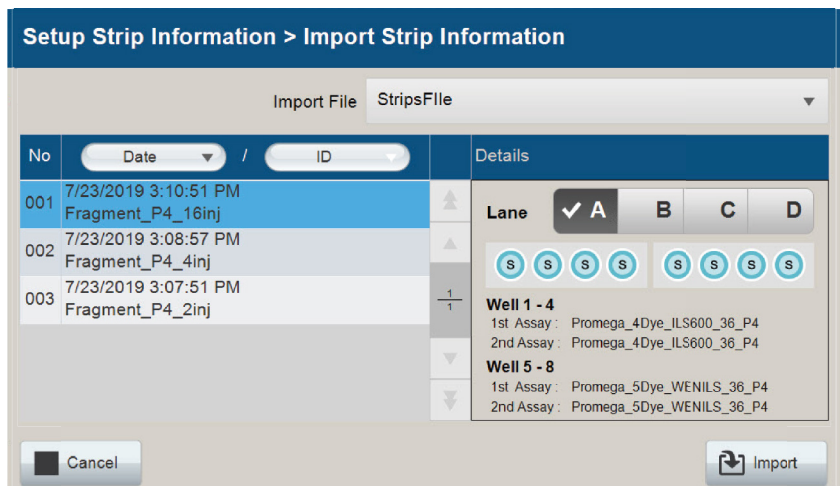

Figure 77. 'Import Strip Information' screen: Strip details.
4. Once a Strip File has been selected, the Details for that strip are displayed on the right side of the screen (Figure 77).